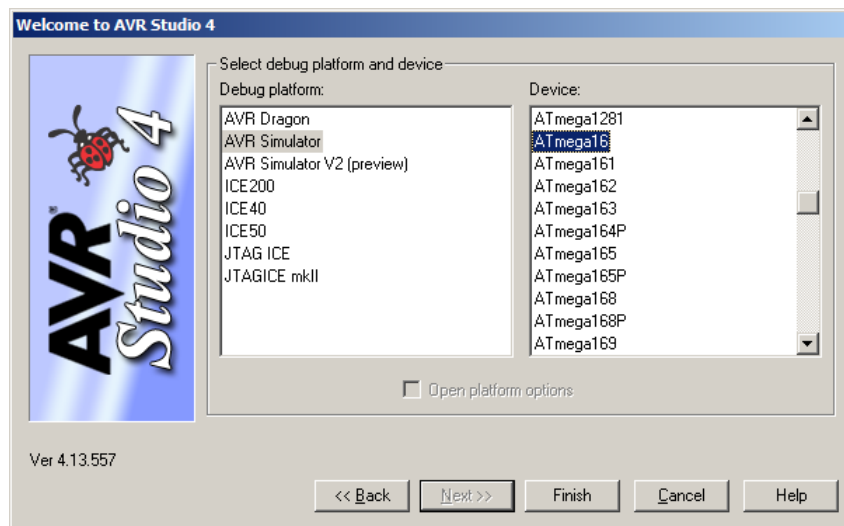

Figure 2: Selecting debug platform and device.
- In the 'Select debug platform and device' dialog that appears (see Figure 2), choose 'AVR Simulator' as the debug platform and 'ATMEGA16' as the device. Click button **Finish**.